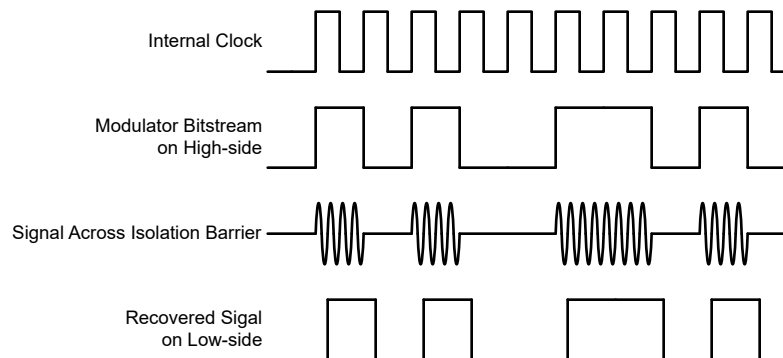

图 7-1. OOK-Based Modulation Scheme
The AMC1350 uses an on-off keying (OOK) modulation scheme, as shown in 图 7-1, to transmit the modulator output bitstream across the SiO₂-based isolation barrier. The transmit driver (TX) shown in the Functional Block Diagram transmits an internally-generated, high-frequency carrier across the isolation barrier to represent a digital *one* and does not send a signal to represent a digital *zero*. The nominal frequency of the carrier used inside the AMC1350 is 480 MHz.